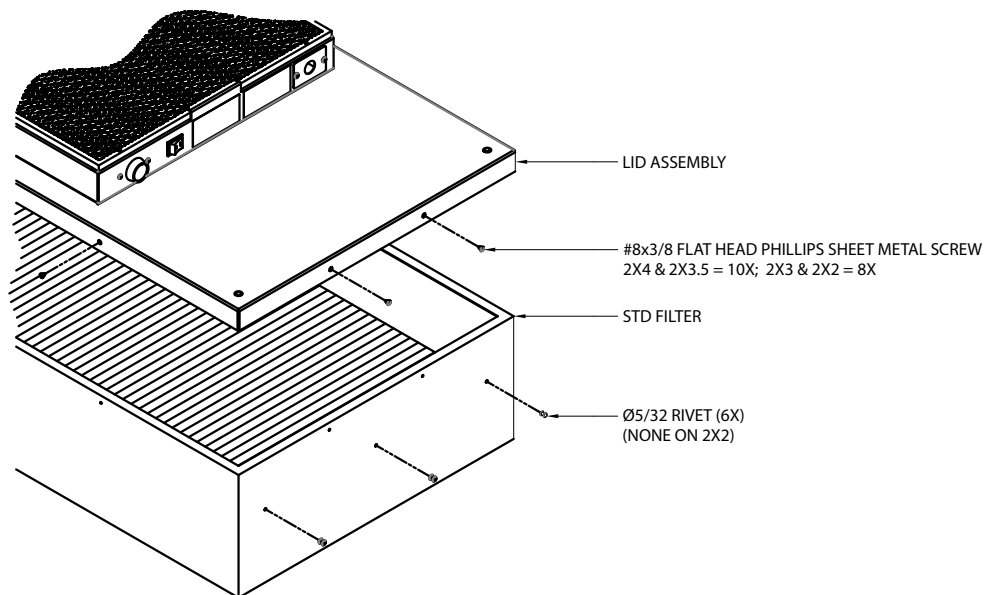

Figure 6: Standard Filter Replacement
Step 3. Lift the lid assembly off the HEPA/ULPA filter. (See Figure 6.) Discard the used filter as per requirements of the applicable regulations.